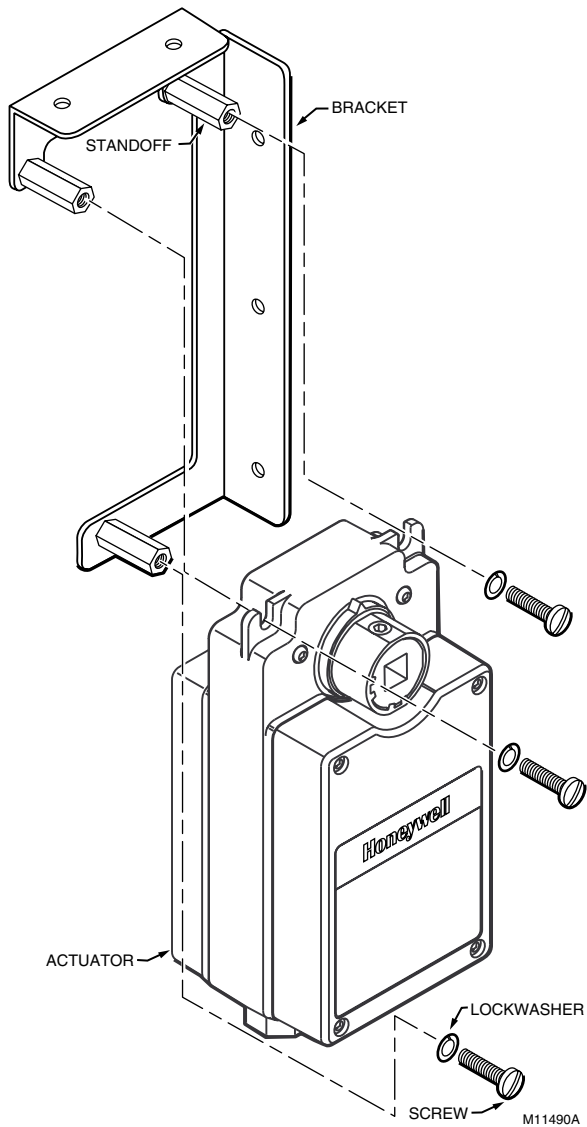

Fig. 2. Mounting the DCA on bracket using standoffs.
3. Attach the DCA to the open end of the hexagonal standoffs with three 1/4 in. screws and lockwashers. See Fig. 2.